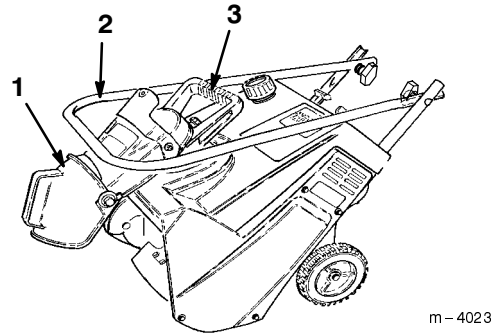

Figure 8
2. Fold the discharge chute down and install the knob tightly onto the bolt at the rear of the discharge chute handle (Fig. 8).
3. Loosen the knobs on the handle and fold the handle down over the snowthrower (Fig. 8).
4. Carry the snowthrower by its discharge chute handle (Fig. 8).